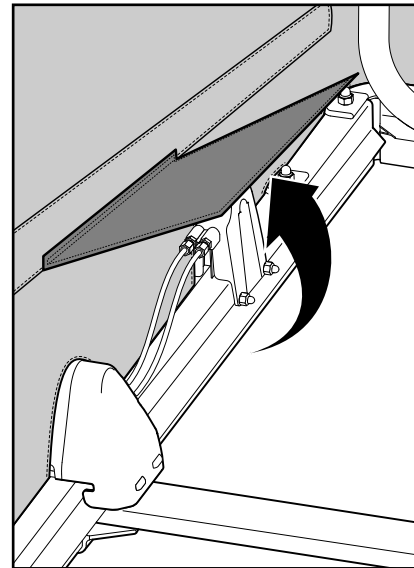

Figure 35
- b. Raise brake cable flap on the brake lever side of the trailer (Fig. 35)